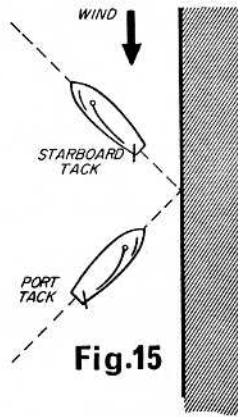

Fig. 15
Braine and self-tacking vane steering gears, besides steering on a defined course relative to the wind (which if the sails are correctly set should give optimum speed and therefore the fastest time from "A" to "B") are able to do three other things. (1) Guy. (2) Gybe; and (3) Tack by pole or hand without carrying out any adjustments. We see that four new terms have been mentioned and a little explanation would not be out of place. The first is the self-tacking vane. The Lassel, Ballantyne, Fisher and moving carriage gears briefly described in the last issue are all self-tacking. If you look at the steering compass (Fig. 5 in the February issue) you will see that when on a close port tack the vane feather makes an angle of 30 odd degrees to starboard relative to the axis of the boat. When on the starboard tack the feather requires to be at a similar angle, but on the port side. The non-self-tacking gear, Fig. 10, would require this movement of the feather to be carried out manually when the boat came to the bank and you wished to change it on to the opposite tack. Fig. 15 shows two boats in these positions just before coming to the bank and just after leaving. The self-tacking vane gear enables the feather to do this change of approximately 65 deg. automatically as the boat is "tacked" (turned on to the new or opposite tack) by pole or by hand. We thus see that we have not only defined (1) self-tacking gear but also tacking (4).